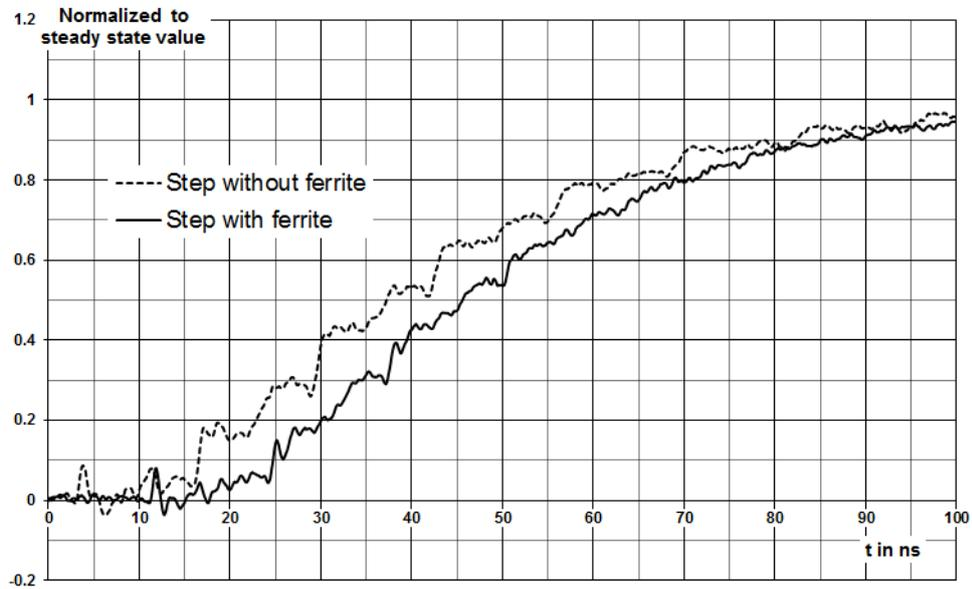

Figure 4-6: Improvement with additional hinged ferrite cores
In Figure 4-6, you can see the improvement in the signal integrity. The curve "Step with ferrite" is artificially delayed for 8 ns for a better view. The ferrite cores do not add any additional delay. The most significant improvement can be seen with the R&S RT-ZHD60 in the "Mode">"Attenuation High" and 5 MHz low pass (LP) on.